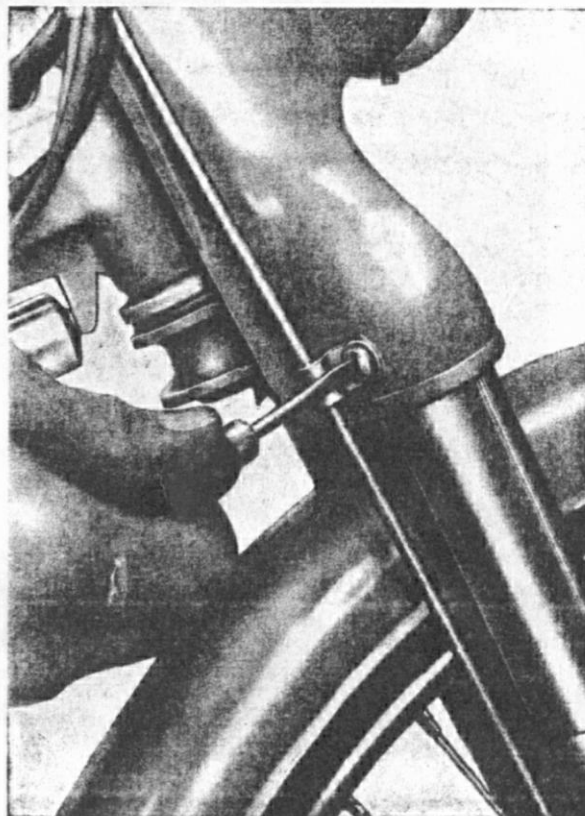

Fig 10: Unscrewing the retaining screws of the head lamp bracket
- (b) Remove holding screws (Fig. 10).